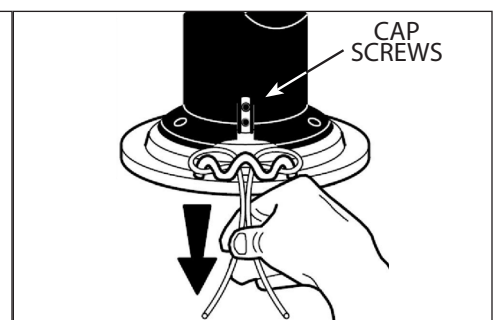

FIGURE 12: Check Ends Of Line.
5. Then, check to make sure that the ends of the line are even. **SEE FIGURE 12**